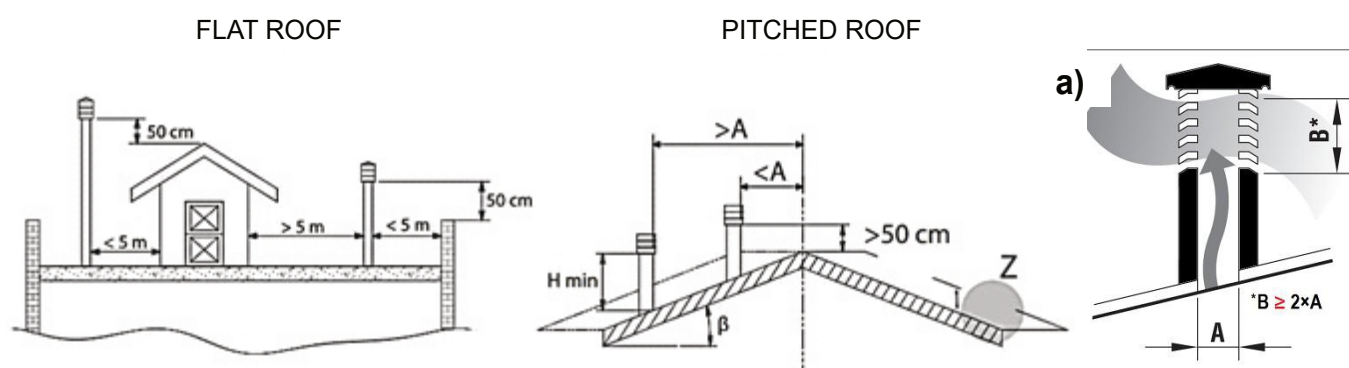

Figure 2
- installed **to enable proper dispersion and dilution of combustion products outside the reflux zone** (backflow) because the counter pressure occurs here. Therefore, it is necessary to adhere to limitations listed in Figure 2,